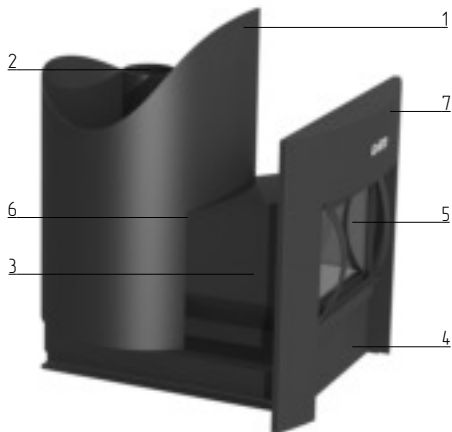

Fig. 2
Overall view and location of the heater main elements are shown in Figure 2. Heater firebox (6) is fabricated of high duty rolled steel. Use of such steel increases the heater's durability and service life taking into account the firebox wall thickness of 3 mm, while the most critical elements are made of 5 mm thick steel.